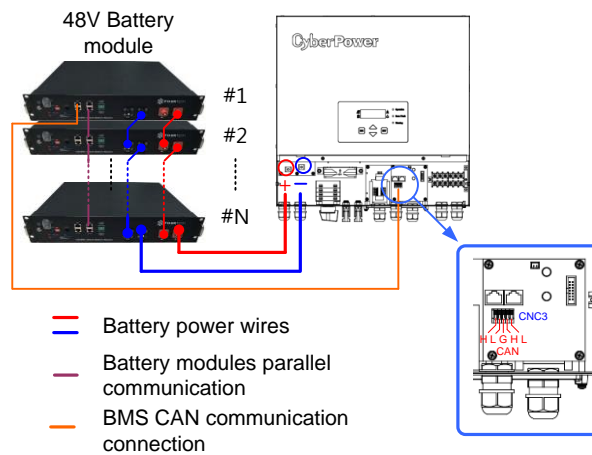

Fig. 3-15 BMS CAN communication connections
7. If LiFePO4 modules are installed, have to build-up BMS CAN communication. Use UTP cables connect the CAN-H/-L from battery module to CNC3 pin1/2 or 4/5 of parallel board (Fig. 3-15).